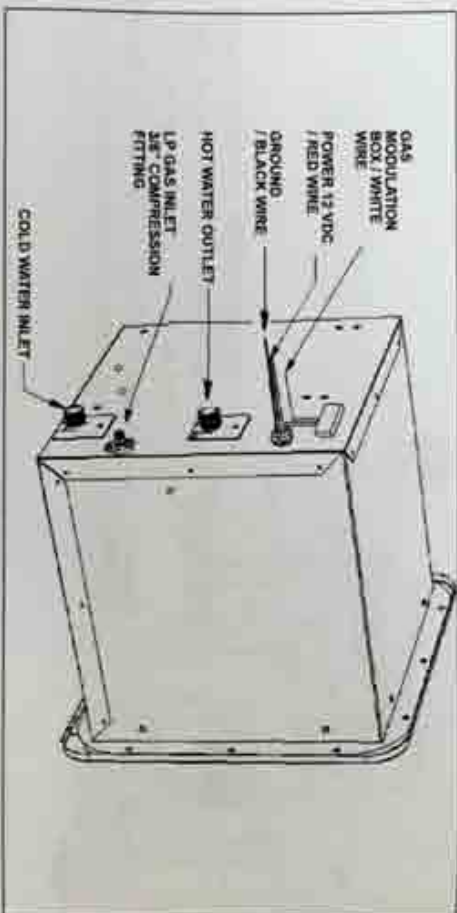

Figure 2
Partially insert the water heater into the opening and connect both Hot and Cold water lines to the appropriate $\frac{1}{2}$ " NPT fittings. Connections can be made using PEX swivel nut adaptors with NPS straight threads and a cone seal. The PEX swivel nuts require only hand tightening. (Figure 2, page 6).
Connect the gas to the $\frac{3}{8}$ " LP Gas compression fitting on the back of the Water Heater (Figure 2). **Use two wrenches to tighten the compression fitting to avoid damaging the unit.** Use additional caulking if needed to complete a permanent seal of the gas line with the housing.
- The length of the external wires, those wires extending beyond the strain relief from the rear of the housing (Figure 2), must NOT be shortened for any reason. Shortening these wires will prevent the removal of the Control Housing during servicing and/or testing.